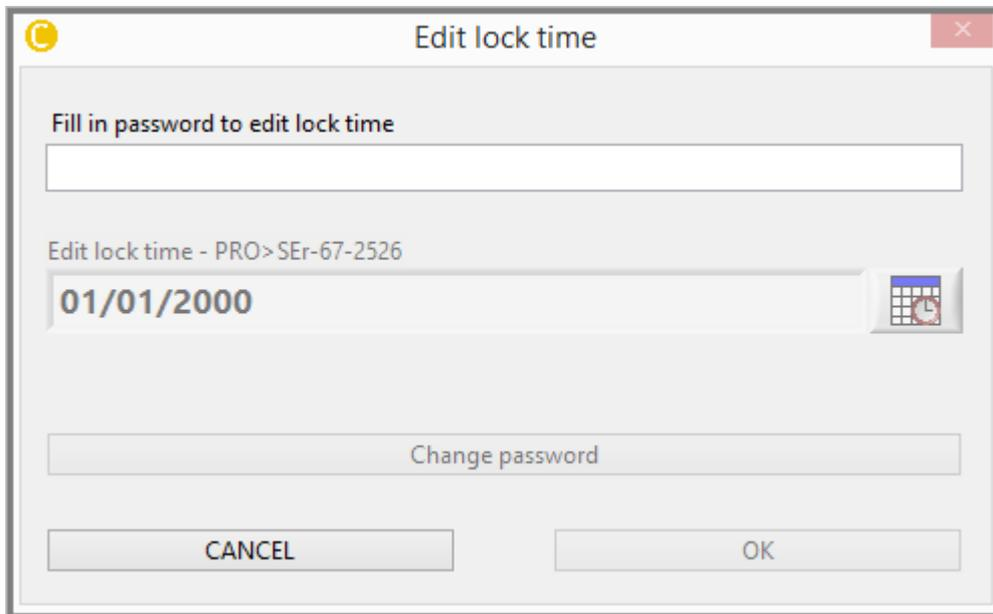

Figure 4-43 : HW setup TAB - Lock
2. Lock older measurements : By pushing this button a window, pop up as shown in Figure 4-43 called Edit lock allowing you to set a key (password). With this setup you can secure previous measurements in the monitor flash.